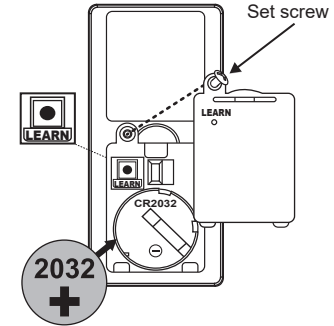

Fig. 17
Remove the panel from the transmitter and then install one 2032 battery (included). You need to use a screwdriver to open or close the battery cover. To prevent damage to transmitter, remove the battery if not use for long periods of time (Fig. 17)
NOTE: After the AC power is on, do not press any other button on the remote control before pressing the button. Doing so will cause the procedure to fail. (Fig. 17)
1. Activating the Learning process: Within 30 seconds of turning the fan's AC power ON, press and hold the LEARN button (on the back of the transmitter) for 3 seconds to enter the learning function. Refer to FIG. 17. Fan will turn on 30 seconds then off and down light (if installed) will blink three times. This confirms that the SMART SYNC setting is active and ok.